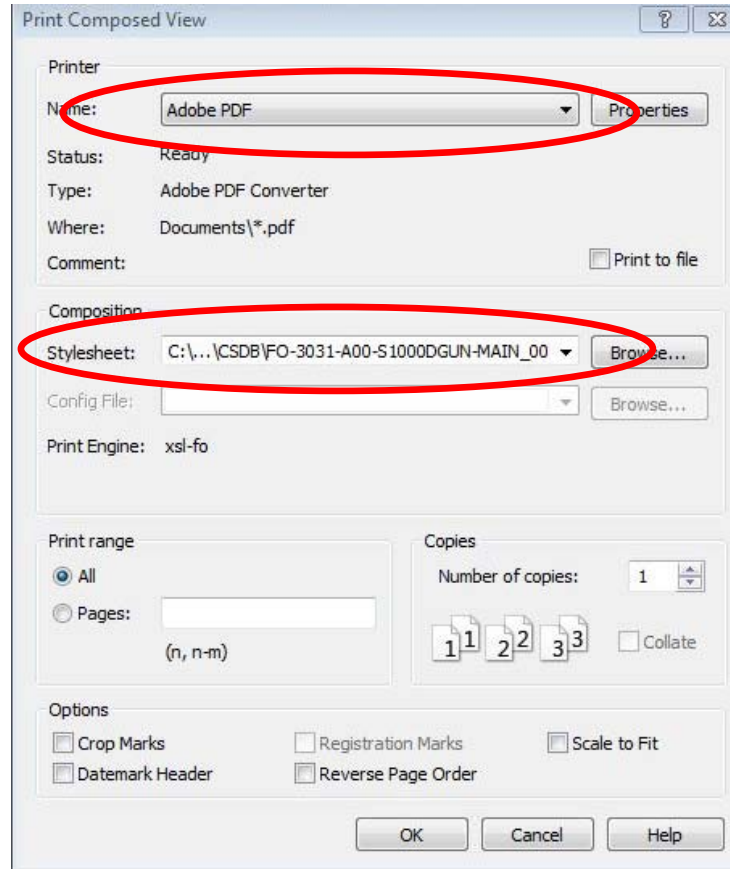

FIGURE 3. Arbortext – print composed view.
- 5) From the toolbar, select the Printer icon (alternatively: *File > Print composed...*). Ensure “Adobe PDF” is selected as the current printer. In the *Stylesheet* field, browse to select the MAIN style sheet (filename: “FO-3031-A00-S1000DGUN-MAIN_001-00_EN-US.xml”) and select “OK.” Refer to FIGURE 3.